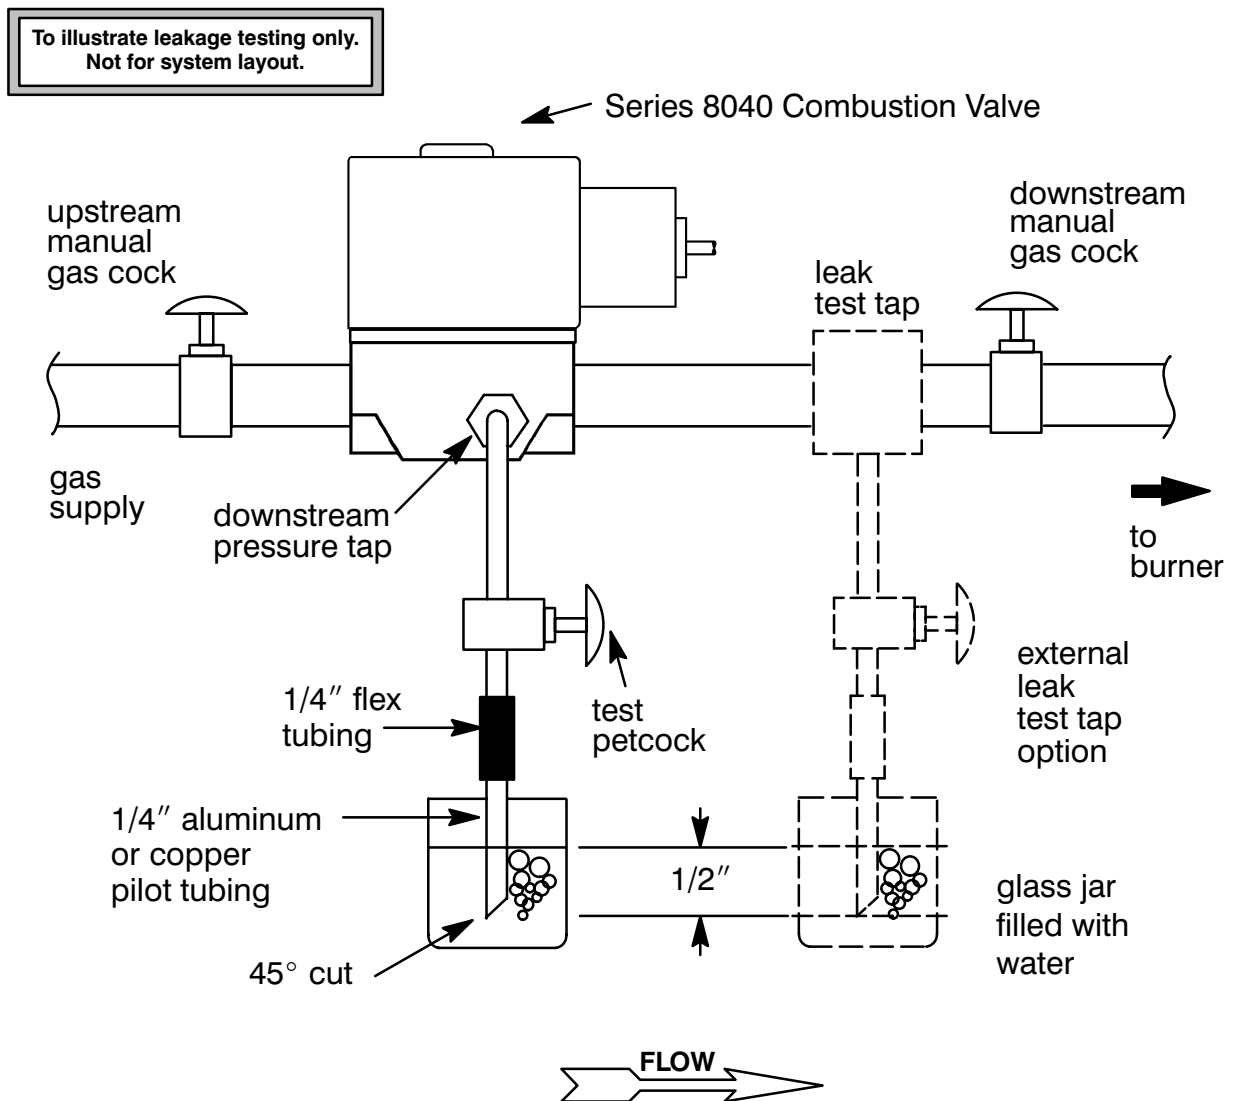

Figure 1. Testing for internal seat leakage.
Testing for Internal (Seat) Leakage (Refer to Figure 1)
4. Shut off the upstream manual gas cock and de-energize valve. Remove the plug from the leak test tap or downstream pressure tap in the valve body. Connect leak test equipment with the test petcock in the closed position, see Figure 1.